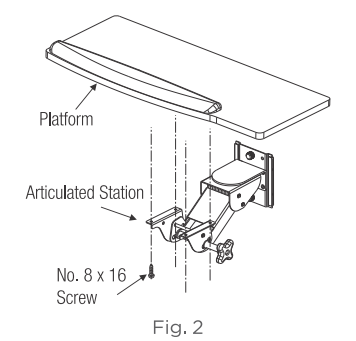

Fig. 2
2. Fix the platform to the Articulated Station using screws provided as shown in Fig. 2.